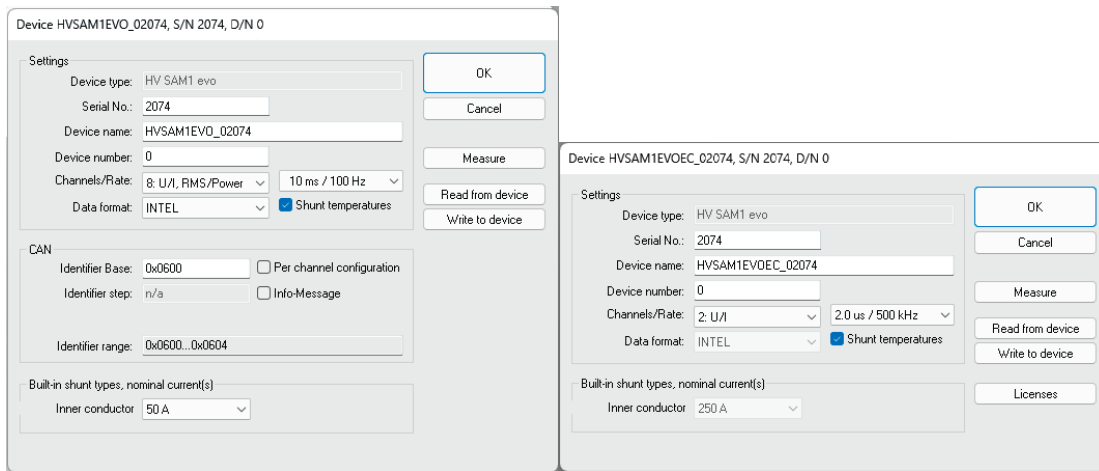

Fig. 6-37: Device configuration dialog, module connected via CAN (left) and via ECAT (right)
- Go to the **Device configuration dialog** (Fig. 6-37) and click on **Read from device**.
If the measurement module is connected via CAN, the **Device Configuration dialog** additionally provides a **CAN** section (Fig. 6-37).
The range of the CAN identifiers used is displayed in the **Identifier range** field. By default, CAN identifiers and transmission rate are specified per device (Fig. 6-37).